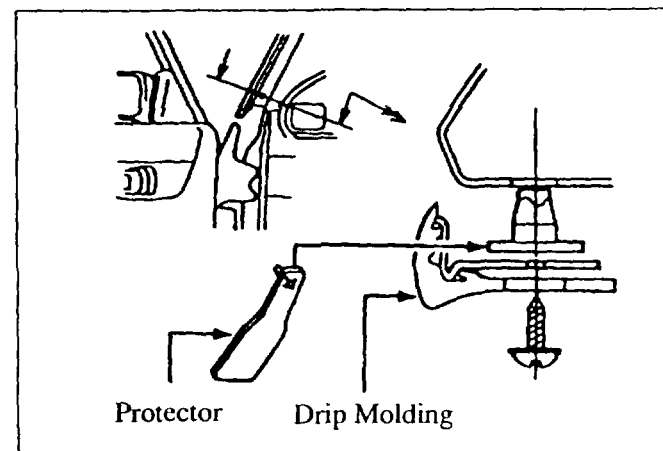

Figure 11: "A" pillar area
3. Install a protector between the drip molding and the "A" pillar. **Figure 11.**